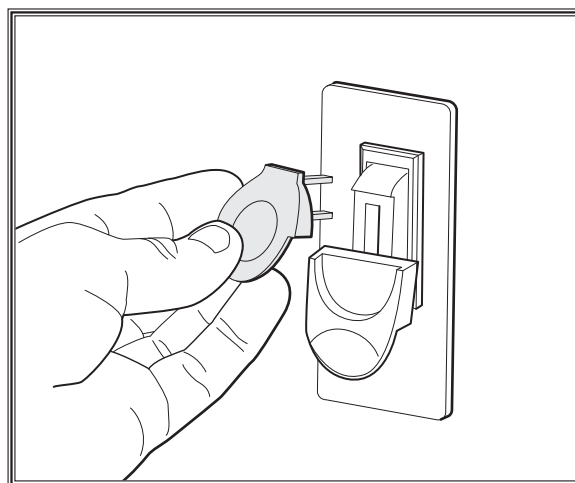

Figure 12. Removing switch key from paddle switch.
7. Remove switch-disabling key, as shown in **Figure 12**.